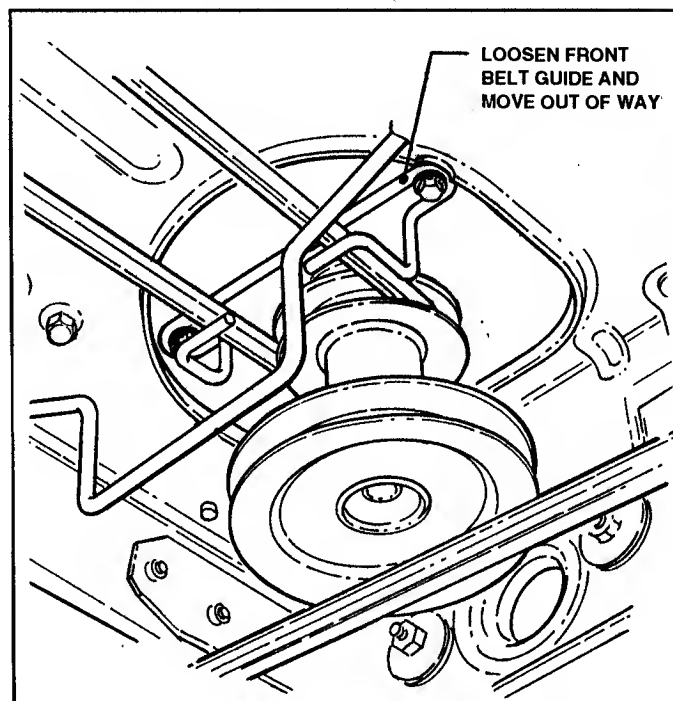

FIGURE 52
6. If necessary, loosen front belt guide and move out of way. See Figure 52.